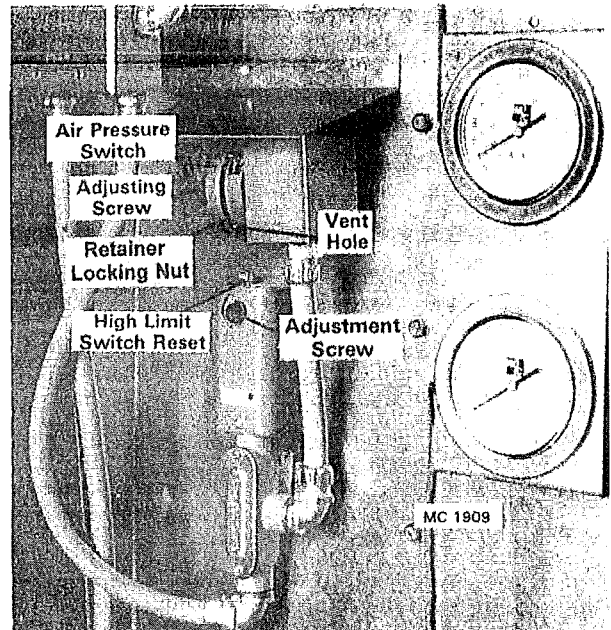

Figure 17
1. There is an air pressure switch for each heat chamber, see Figure 17. The air pressure switch detects static air pressure in the heat chamber when the dryer is full of grain and the fan is running. If the static air pressure drops because of fan failure, the air pressure switch opens stopping current flow to the ignition switch. The gas
- Remove the plastic cap on the air pressure switch. The slotted screw is the adjusting screw. See Figure 17.
8. If the high limit switch trips out, close the gas hand valve and turn the ignition switch OFF. Push the reset button on the high limit switch to reset it. See Figure 17. Adjust high limit 30° to 50° above operating temperature. This will avoid nuisance shutdowns during start up.